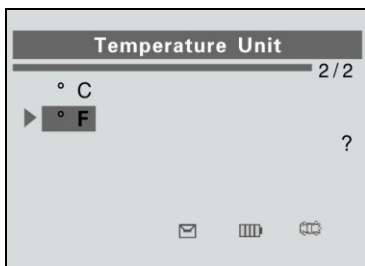

Figure 3.9
- 2) From **Temperature Unit** screen, use the **UP/DOWN SCROLL** button to select the desired unit of temperature. (Figure 3.9)